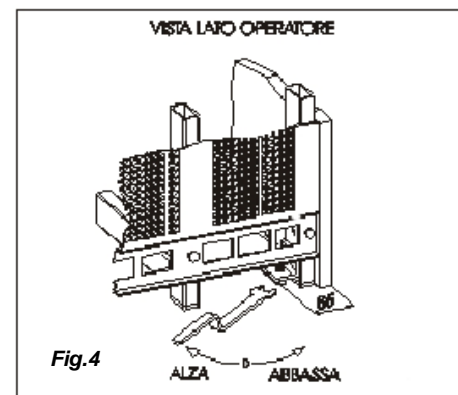

Fig.4
- Once the cabinet is placed in the desired area, it must be put horizontally through the adjustable feet (fig.4)